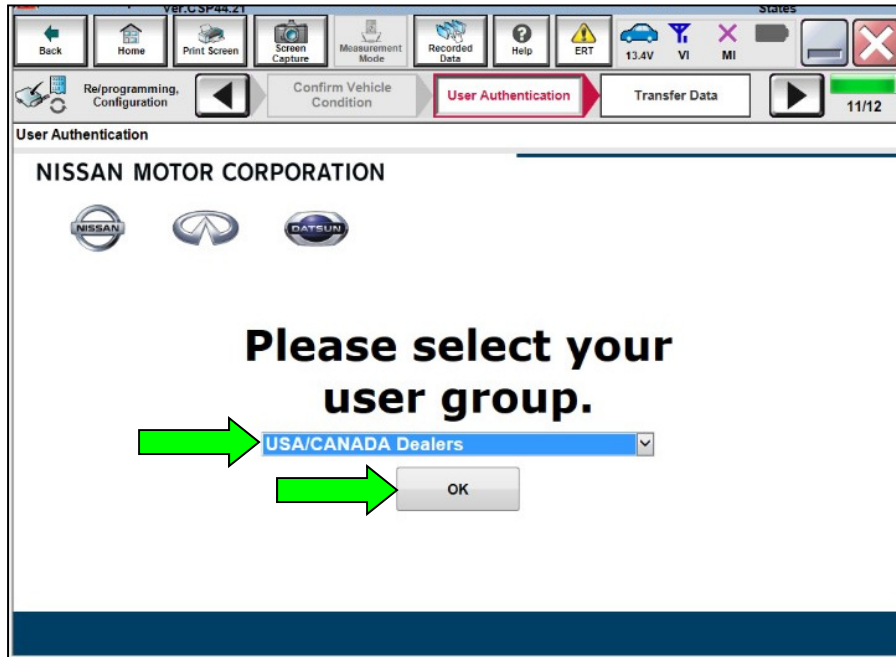

Figure 15
23. If the screen in Figure 15 displays, select **USA/CANADA Dealers**, then select **OK**. If it does not, continue to step 24.